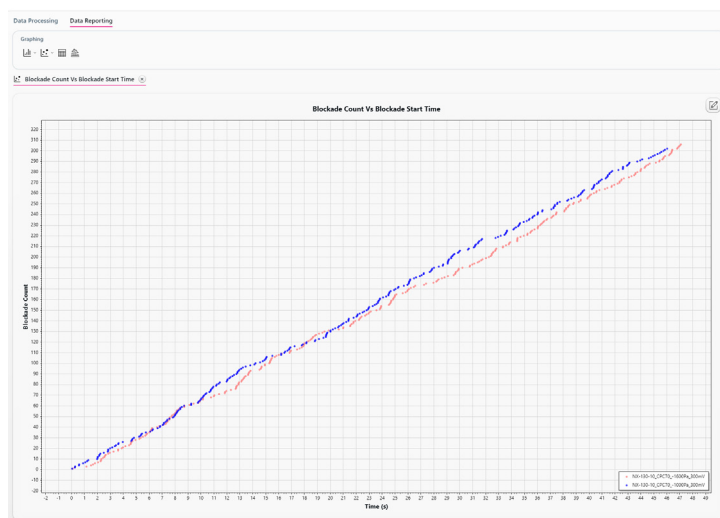

Figure 22. An unacceptable particle rate plot.
6. If any rate lines overlap or are in the wrong order, the recordings will need to be repeated (Figure 22).